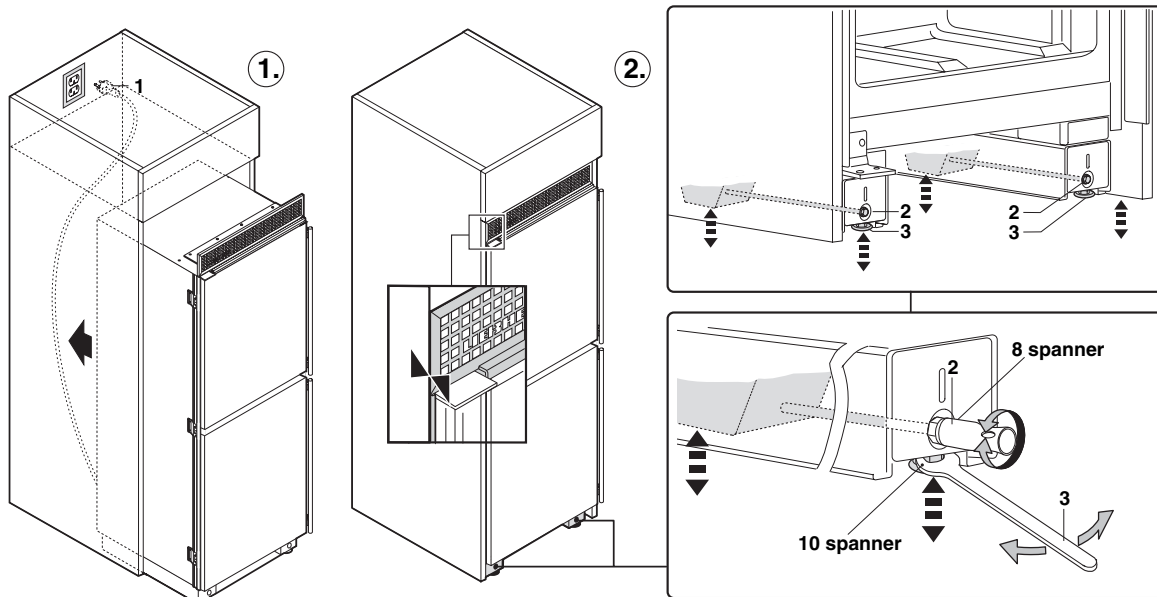

Figure 17
- **Figure 17:** Connect the appliance to the main power supply.
2. Align the appliance until it is parallel with the surrounding kitchen cabinet. Use the open-end wrench 10 mm (3) to adjust the feet at the front.